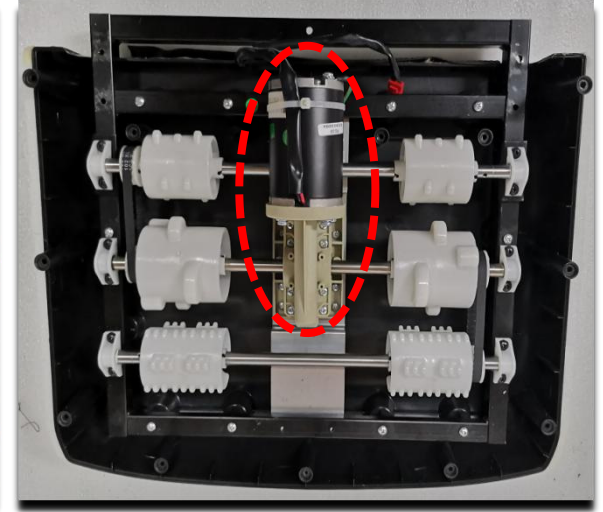

Figure3
- D、 If the above is normal, and the wiring harness is ok, we should consider replacing the foot roller motor (FIG. 3).